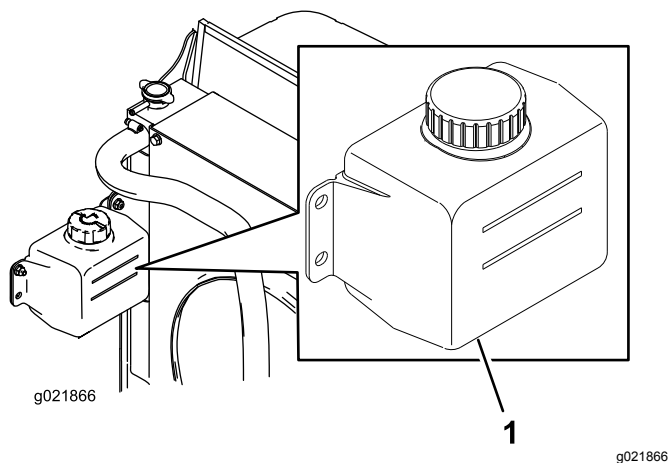

Figure 94
1. Check the level of coolant in the expansion tank (Figure 94).